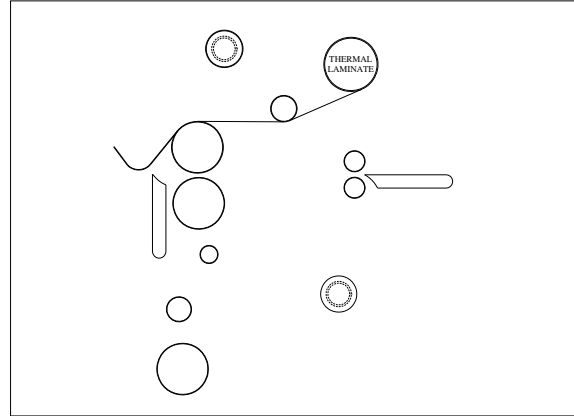

FIGURE 21
4. Pull the top roll film down under the upper idler bar and allow to drape over the top heat roller (Fig. 21)